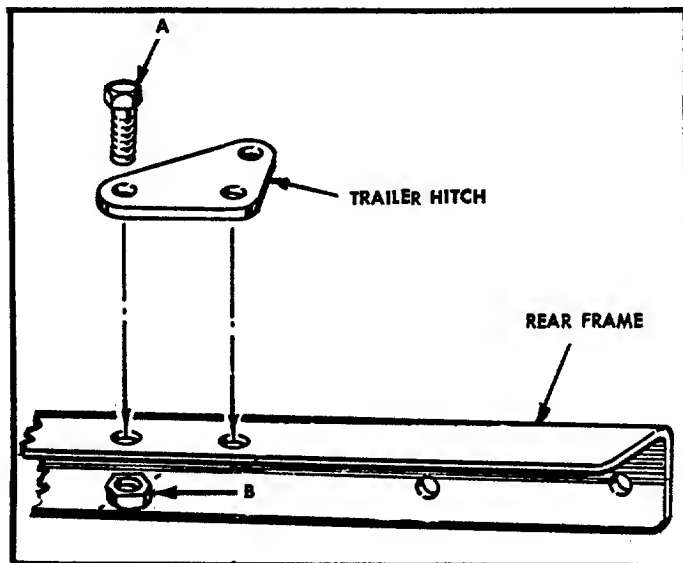

FIGURE 5. TRAILER HITCH
- Step 8. Position the trailer hitch on the center of the rear frame section and fasten with bolts A and nuts B. See figure 5.